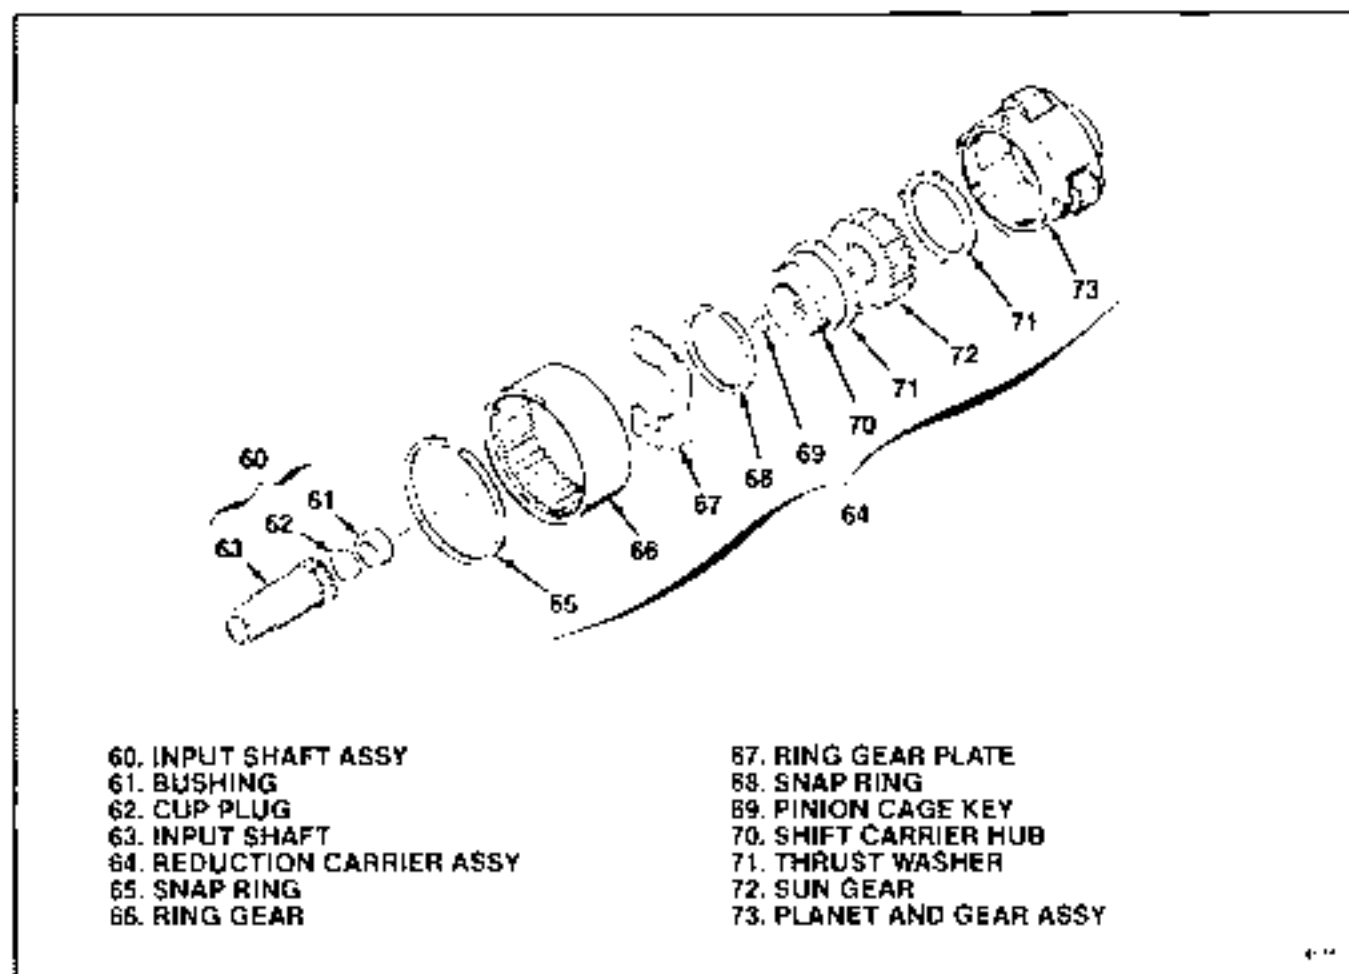
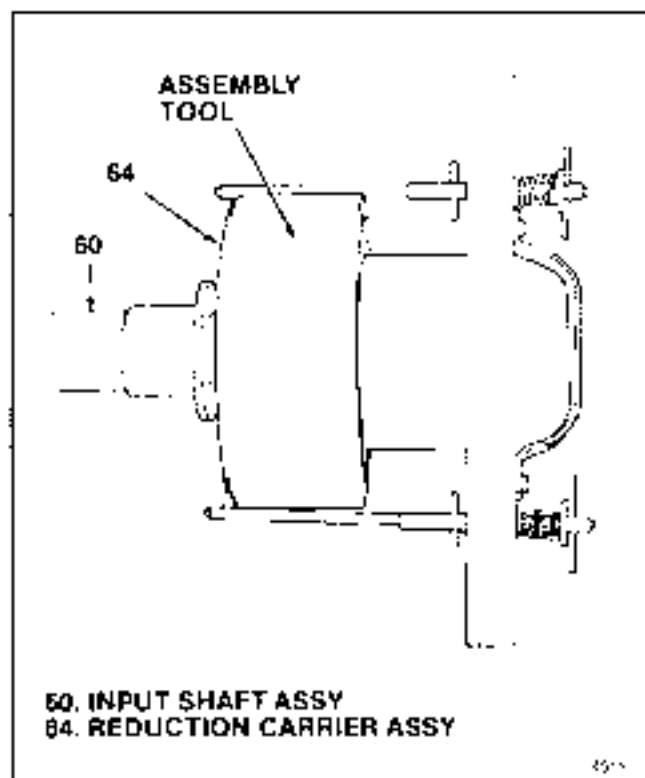

Figure 5-5. Carrier and Input Shaft Group
Figure 5-6. Holding Parts Together With Assembly Tool
**5-7. ASSEMBLY OF CARRIER AND INPUT SHAFT GROUP.** On work bench, assemble parts as follows (see figure 5-5).
- Lay planet and gear assembly (73) on work bench with open side up (splined end down).
- Insert one thrust washer (71) into planet and gear assembly (73) with washer tabs between gears. Then rotate thrust washer until its tabs line up with notches in planet and gear assembly and drop into place.
- Install sun gear (72) with side marked at disassembly up. Rotate gears of planet and gear assembly (73) as required until sun gear is fully meshed and resting against thrust washer (71) previously installed.
- Apply petroleum to face of remaining thrust washer (71) to hold it in place and install in shift hub (70) with washer tabs in hub notches. Install shift hub in planet and gear assembly so that notch on hub flange aligns with that of planet and gear assembly. The two notches will form a T-shaped recess. Install pinion cage key (69) in this recess.
- Rotate shift hub (70) in planet and gear assembly (73) with snap ring (68).
f. Slide ring gear plate (66) into groove in OD of shaft hub (70). Make sure plate goes into narrow groove, not the wider groove for shift fork.
g. Place ring gear (66) on two 3/8 in. (9.5 mm) spacers on work bench with snap ring groove up. Lower planet and pinion assembly and assembled parts (67 through 73) into ring gear. Rotate planet and gear assembly (67) to align gear teeth, and snap gear plate (67) to align its teeth with those in ring gear.
h. If removed, press in cup plug (62) to bottom in input shaft (63). Press in new bushing (61) until its outside end is flush with bottom of chamfer in input shaft (63).
i. Install input shaft assembly (60) into reduction carrier assembly (64). Install assembly tool T13-15-001 as shown in figure 5-6 and tighten hand knobs securely to hold assembly in neutral and together for installation later.